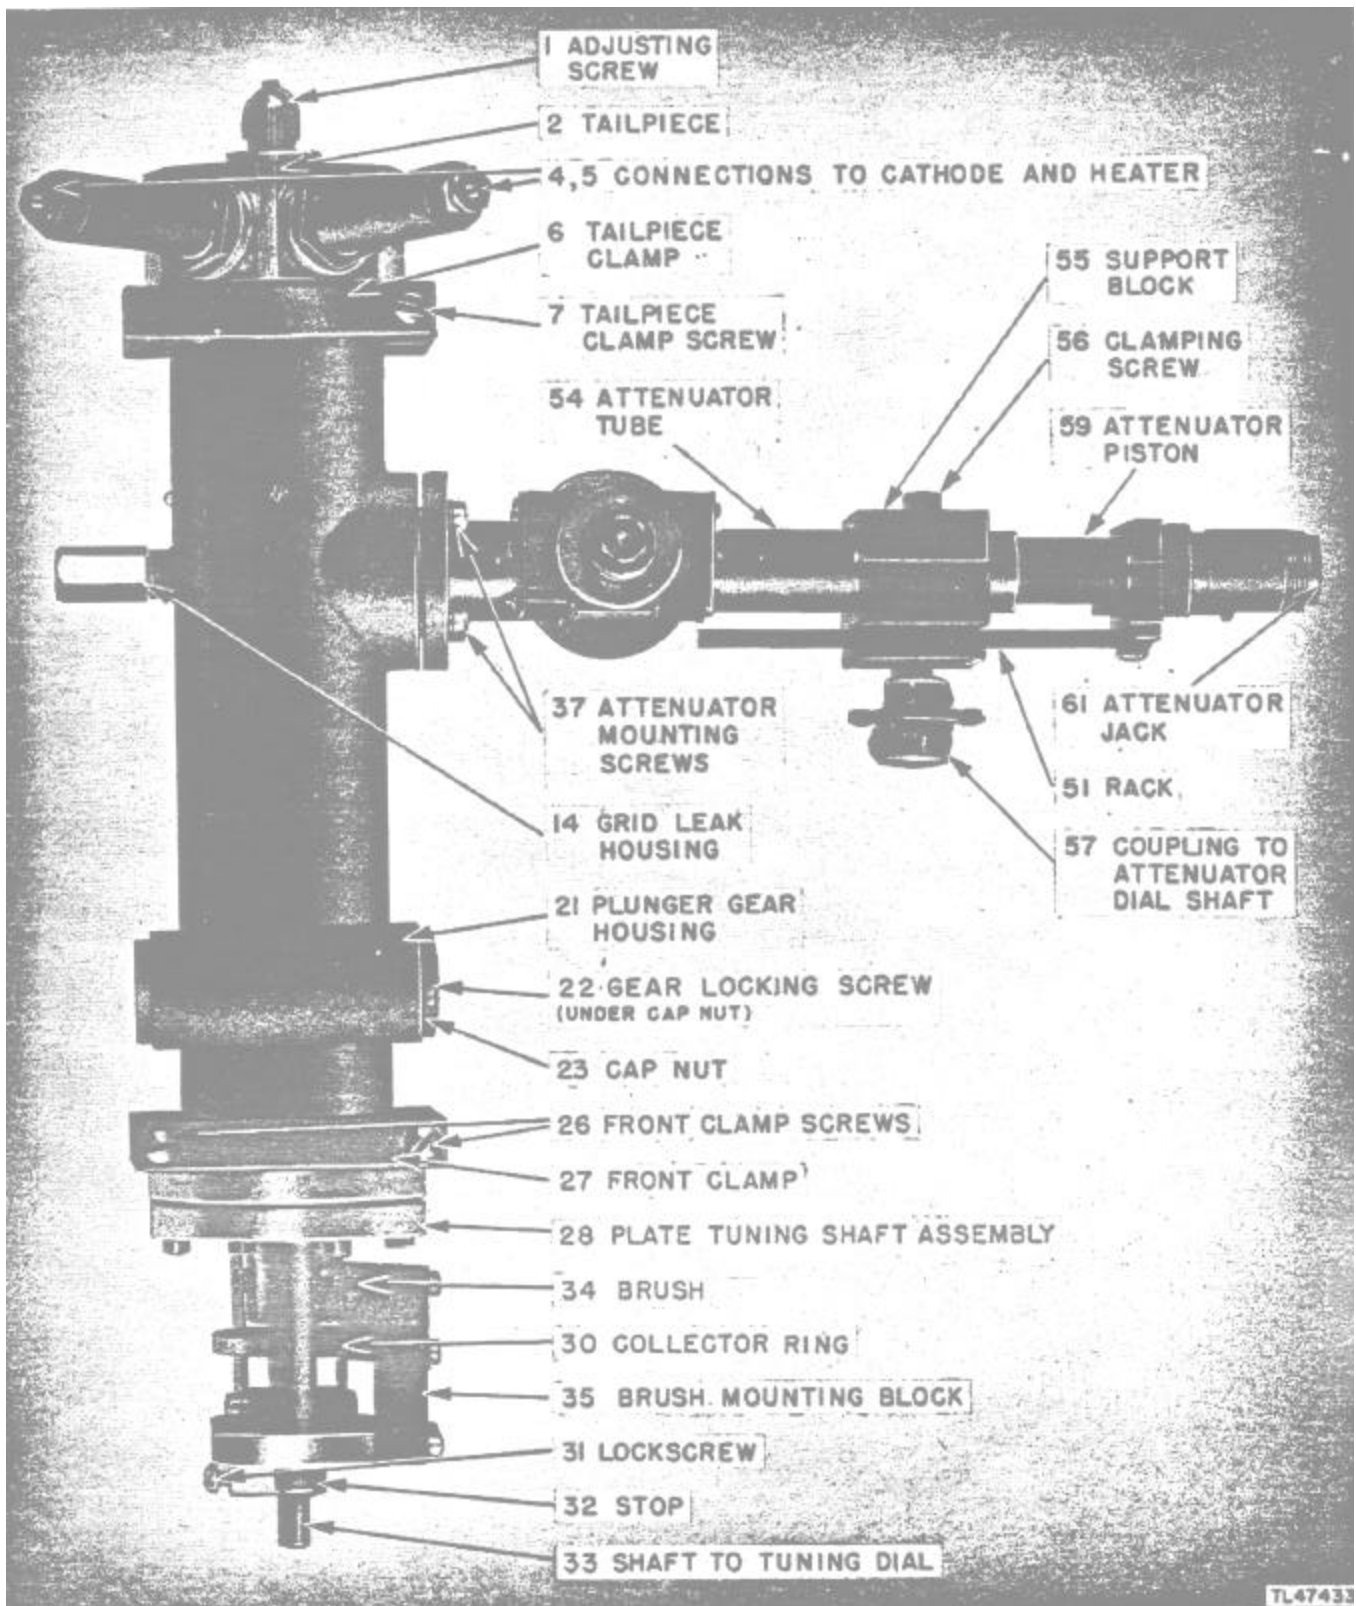

Figure 39. Oscillator assembly removed from signal generator chassis.
(1) Disconnect the attenuator cable connection (70).
(2) Unsolder and remove all thermistor terminal connections. Tag all leads to facilitate location during reassembly.
(3) Disconnect the plate lead (66) on the brush mounting block (35).
(4) Loosen the r-f tuning shaft setscrews (65) and setscrews (67) at the coupling to the attenuator dial shaft (68).
(5) While supporting the cavity assembly, remove the support block mounting screws (73) on the bottom of the chassis.
(6) Support the cavity assembly. Remove the tailpiece clamp mounting screws (74) and front clamp mounting screws (75) on the bottom of the chassis.
(7) Free the oscillator cavity and associated assemblies and remove from the signal generator chassis.
d. *Disassembly of Attenuator* (fig. 39). Remove the four attenuator mounting screws (37) that fasten the attenuator to the oscillator cavity. Separate the attenuator from the cavity.
(1) Remove the limit screw (49) and withdraw the attenuator piston (59) from the attenuator tube (54) by turning the coupling to the attenuator dial shaft (57) counterclockwise.
(2) The support block (55) may be removed from the attenuator tube (54) by loosening the clamping screw (56).
1. Do not change the setting of the adjusting screw (62), or the calibration of the unit may be destroyed.
2. The lead from the thermistor coupling loop (36) is soldered (39) to the lead from the bead thermistor. This connection will be broken if the thermistor assembly mounting screws (40) are removed and the thermistor assembly separated from the attenuator assembly.
f. *Removal of Plate Tuning Shaft Assembly from Oscillator Cavity* (figs. 39 and 40). To remove the plate tuning shaft assembly (28) from the oscillator cavity proceed as follows:
(1) Remove the two screws holding the brush mounting block (35) in place.